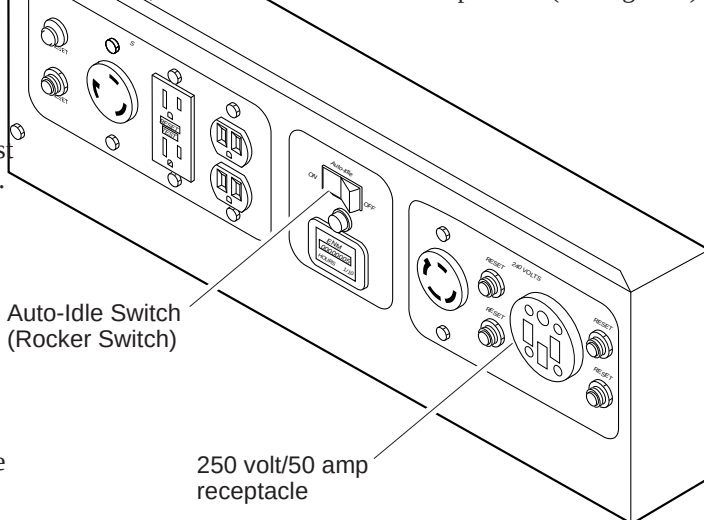

Figure 1 - Auto-Idle Switch Location
Notice: The 250 volt/50 amp receptacle is not connected through the auto-idle circuit. Auto-idle rocker switch must be turned off to get full power out of this receptacle (see Figure 1).
1. If the engine is cold, turn Auto-Idle switch off (see Figure 1).
3. Turn engine key switch to the OFF position (see Figure 1).